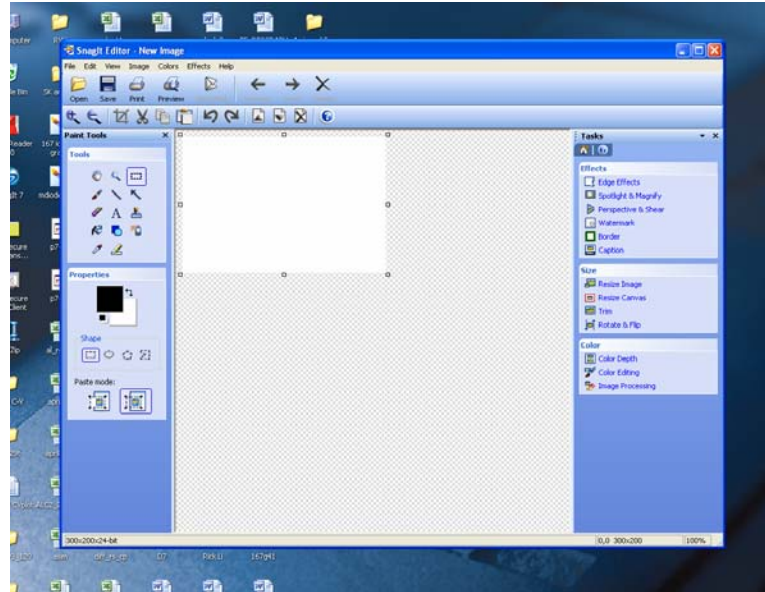

Figure 72: SnagIt Editor
4. Following Window will pop up, see Figure 72